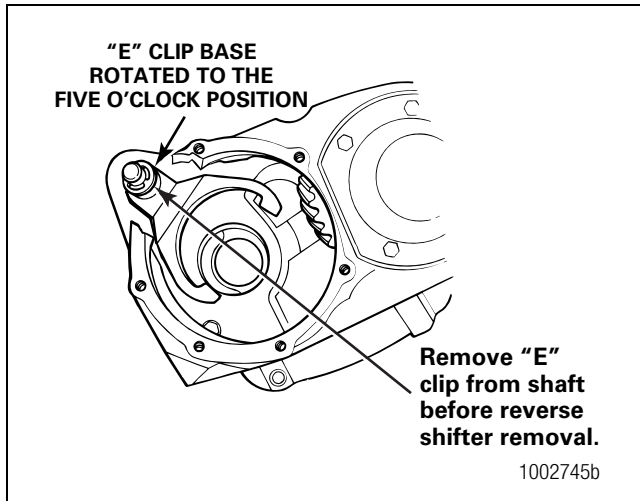

Figure 3.41
5. Rotate the shift shaft until the "E" clip ahead of the shift fork is at approximately the five o'clock position. Figure 3.41.